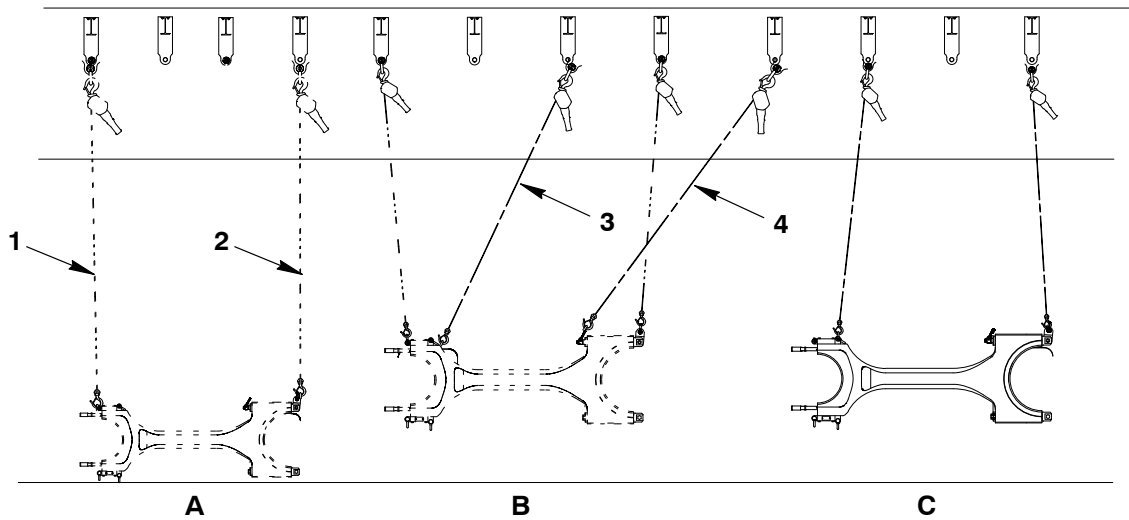

Fig. 8
- 7) Lift the connecting rod (5, Fig. 8) a small distance.